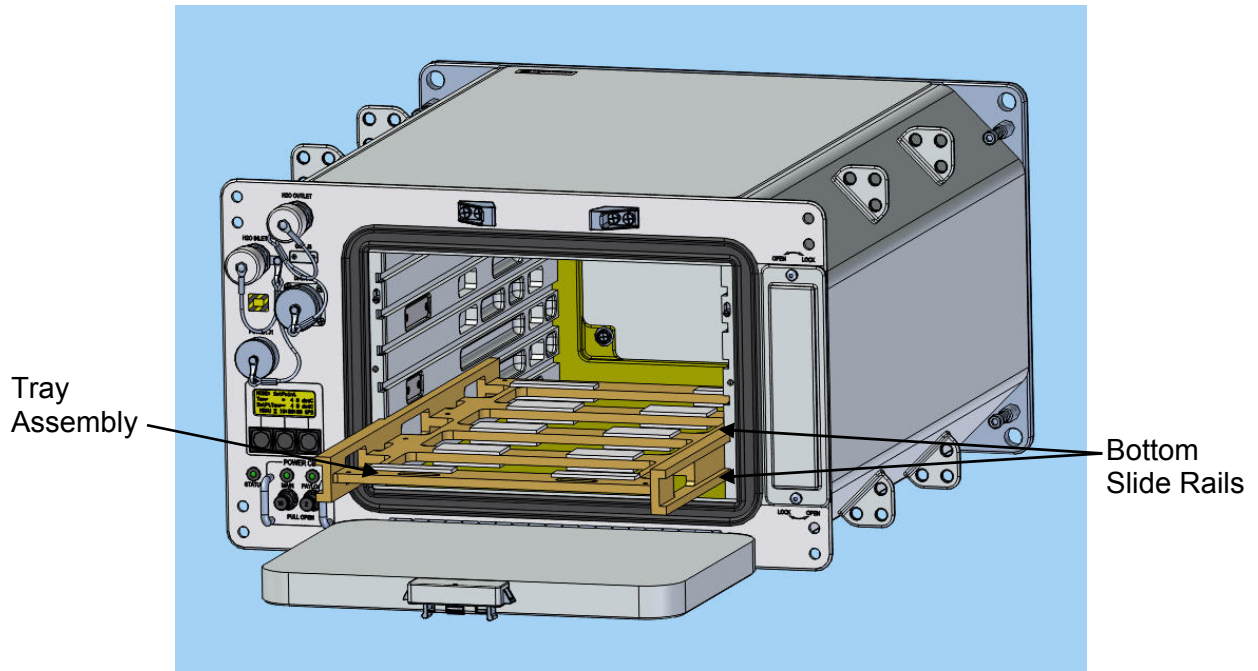

Figure 5-3. - MERLIN with Tray Assembly
- * rails of internal volume. (See Figure 5-3 REFERENCE 5: *